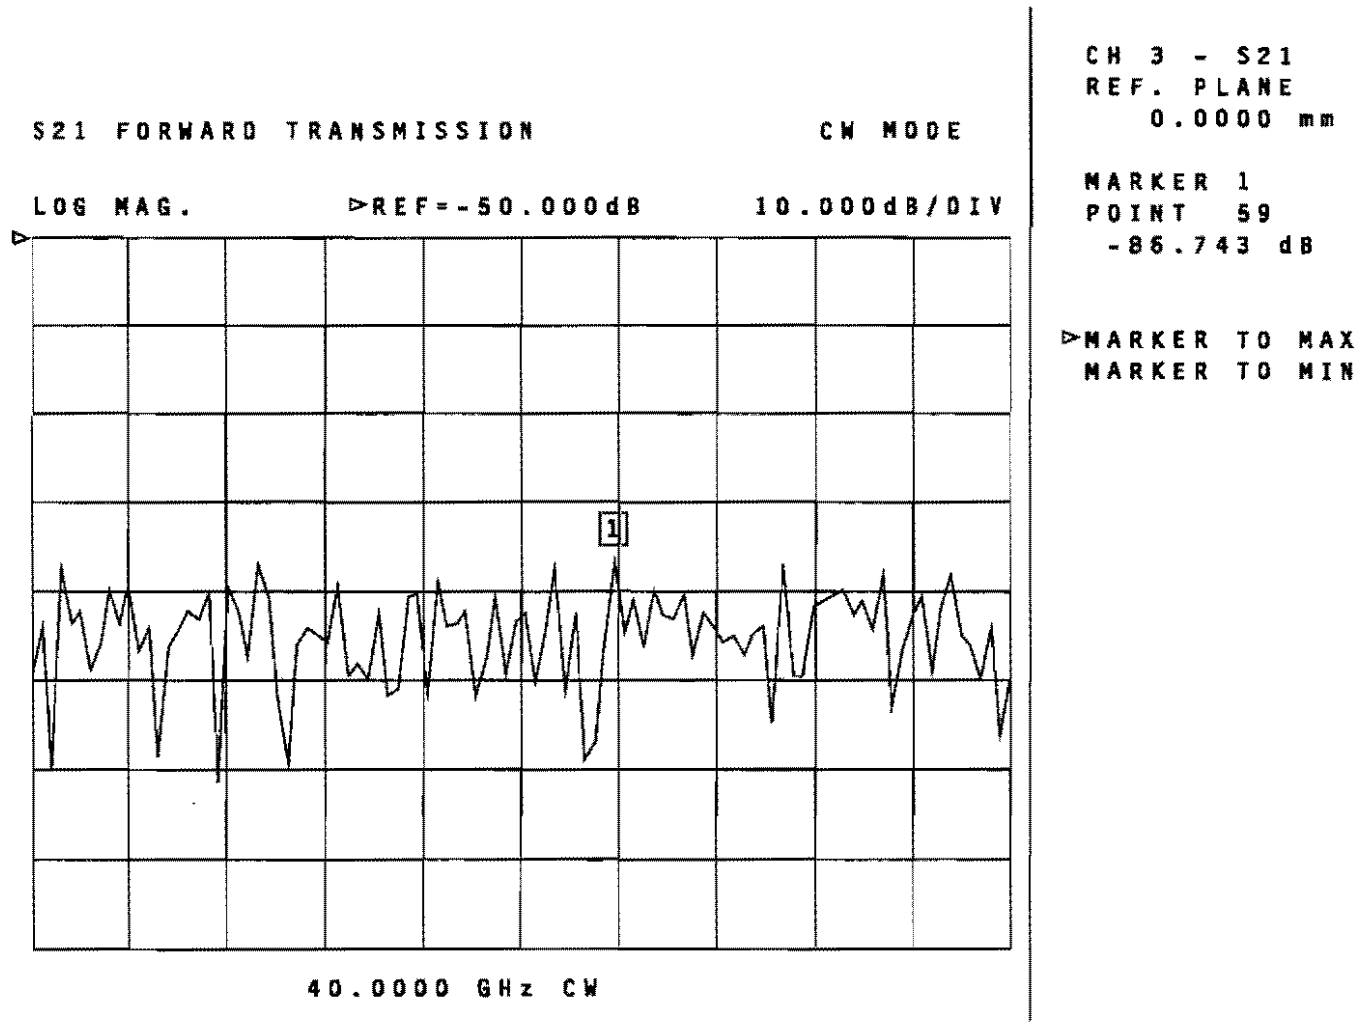

Figure 3-5. Dynamic Range Test Waveform
- Step 6.** Position the cursor to **MARKER TO MAX**, press the ENTER key, and record the value (Figure 3-5).